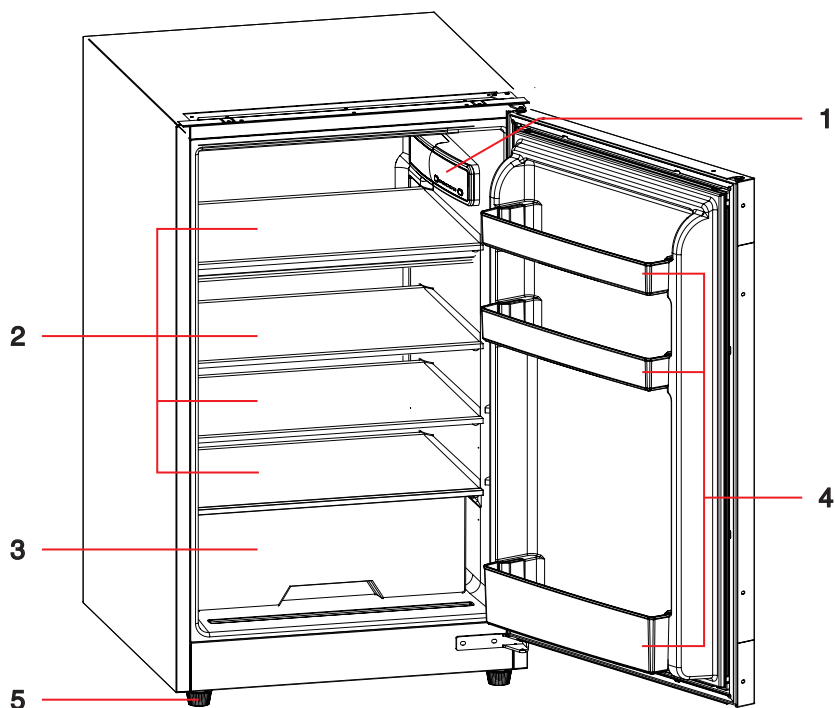

Fig. 4.1
- The temperature control panel is inside the appliance, at the centre (1, Fig.4.1).
- To turn on the appliance, press and hold the “Power” button (A) for 3 seconds; the indicator light will come on when the power is on.
- Press the “Adjust” button (B) to adjust the temperature inside the compartment, selecting a setting from “1” to “5” (C).
- To turn off the appliance, press and hold the “Power” button (A) for 3 seconds. The indicator light will turn off, and then the refrigerator and interior lighting will be deactivated.